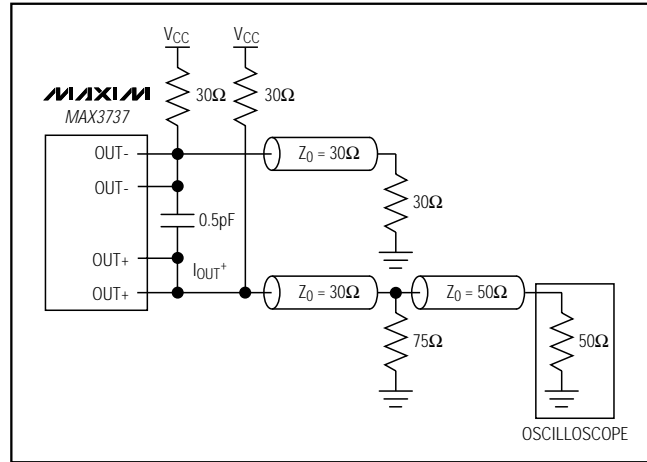

Figure 2. Test Circuit for Characterization
**Note 1:** AC characterization is performed using the circuit in Figure 2 using a PRBS 223 - 1 or equivalent test pattern.